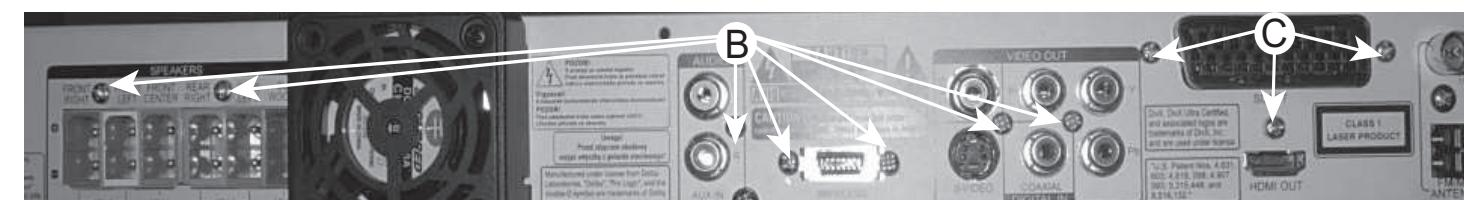

Figure 5
- 1) Loosen 7 screw "B" at the back panel as shown in figure 5.
- 1) Loosen 3 screws "C" at the back pance as shown in figure5